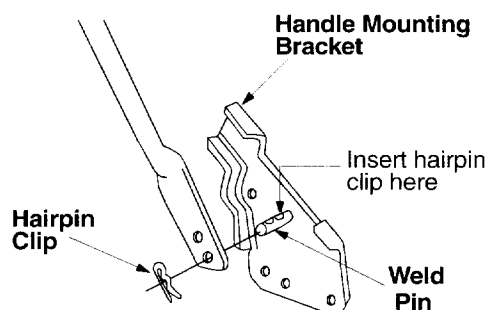
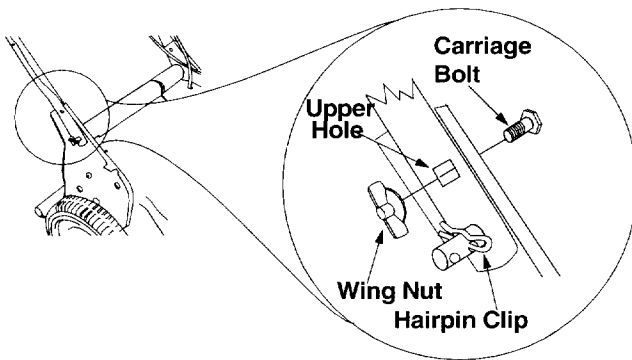

Figure 2
Figure 5
- Remove the hairpin clips from the outer hole in the weld pins on the handle mounting brackets. Using a pair of pliers, squeeze one leg of the lower handle against the handle mounting bracket. Insert the hairpin clip into the inner hole on the weld pin. Repeat on the other side. See Figure 2.
- After you have moved the hairpin clips as shown in Figure 2, place one carriage bolt (found in the hardware pack included with your unit) in the upper hole of the right handle mounting bracket from the inside outward. See Figure 5. Secure with one plastic wing nut. Repeat process on the left side.